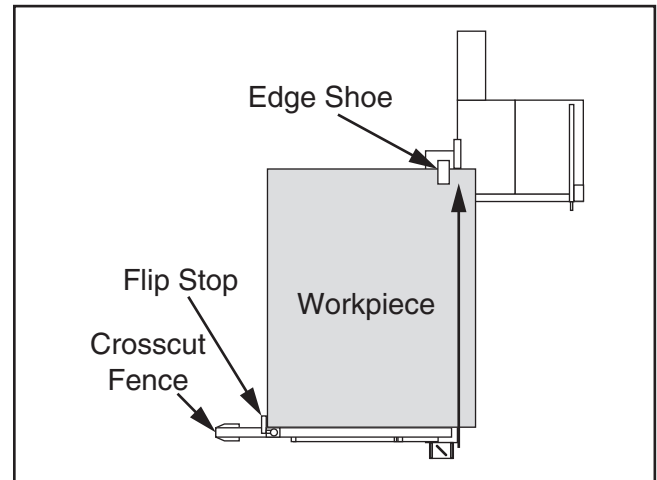

Figure 100. Rip cut with sliding table and crosscut fence.
The Model G0820 has the capability of rip cutting large panels (see **Figure 100**). The sliding table removes the burden of sliding a large and heavy panel over a stationary table surface.
The edge shoe (see **Figure 100**) is used to stabilize the front end of a workpiece when otherwise unsecured.
5. Load workpiece onto table saw. The setup should look similar to **Figure 100** on **Page 51**.